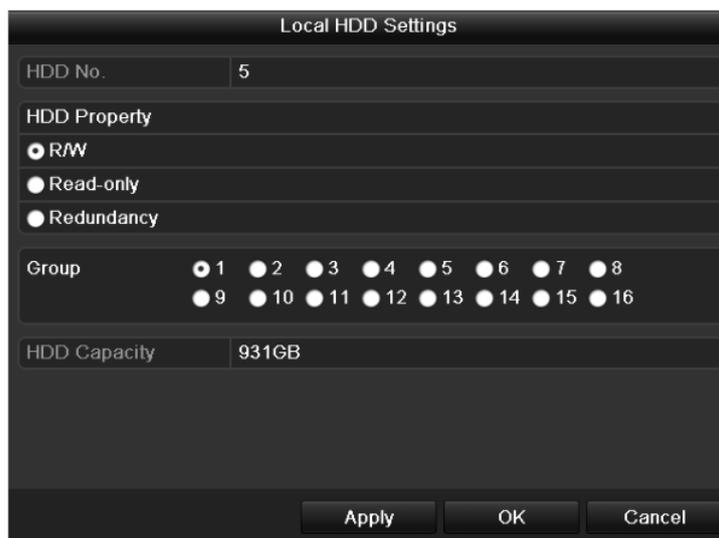

Figure 10. 14 Set HDD Property
2. Select HDD from the list and click the  icon to enter the Local HDD Settings interface, as shown in Figure 10. 14.